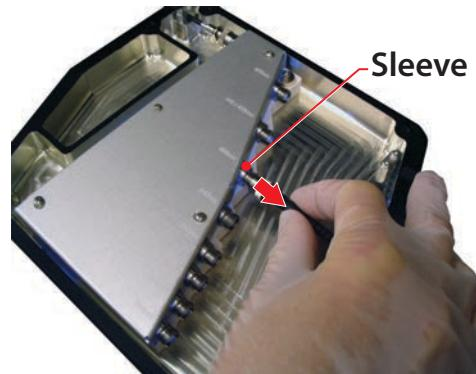

Figure 13-22. Slide Fiber Out of the Sleeve
5. Loosen the FC connector and *carefully* slide the fiber out of the sleeve, as shown in Figure 13-22.